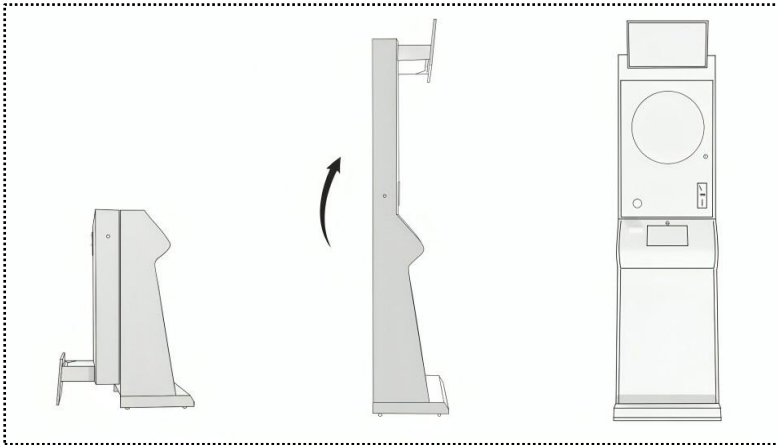

Figure 5.1: Machine position before and after raising the upper section
2. Carefully raise the upper section of the machine into an upright position (see Figure 5.1).